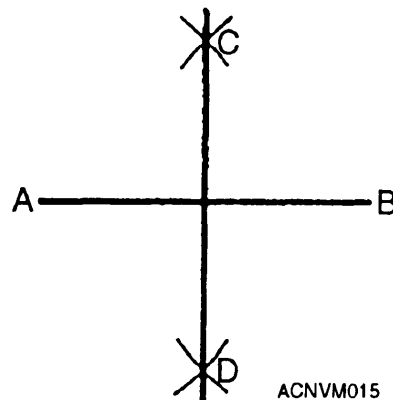

Figure 12-15.—Constructing a 90-degree angle by bisecting a line.
1. For the first method, break out your dividers, a scribe, and a straightedge. Draw a base line like the one labeled AB in figure 12-15. Set the dividers for a distance greater than one-half AB , then, with A as a center, scribe arcs like those at C and D . Then, without changing the setting of the dividers, use B as a center, and scribe another set of arcs at C and D . Draw a line through the points where the arcs intersect and you will have perpendiculars to line AB , forming four 90-degree or right angles. Not only have you constructed a